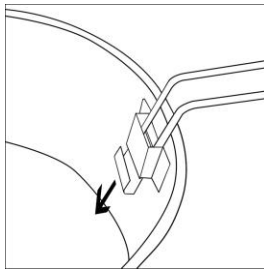

Figure 2
- Insert the basket handle into the bracket found on the inside of the frying basket (see figure 2).